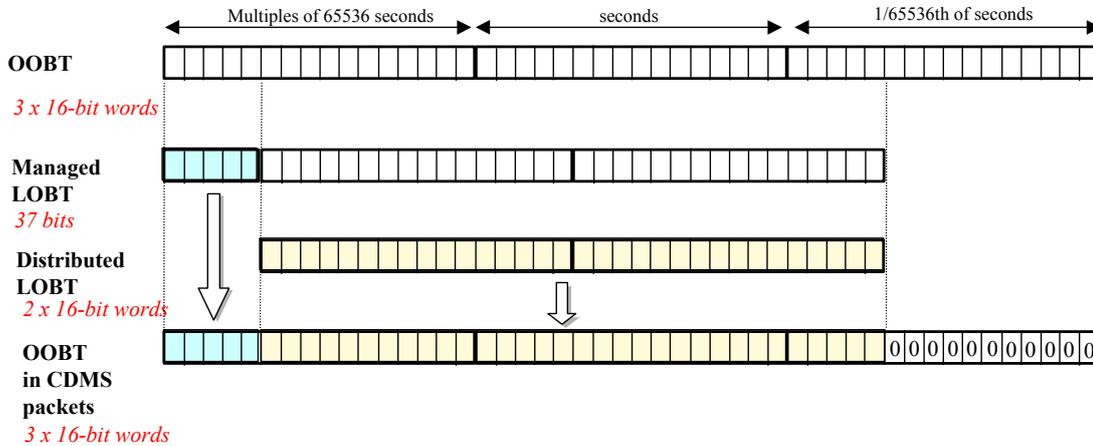

Figure 3.1: Reconstruction of on board time in CDMS packets
- ◆ The relationship between both time formats (OOBT and LOBT) is given in AD10. Afterwards, SONC processes science raw packets in order to recompose the science measurement (e.g. an image or a spectrum). Figure 3.1 gives an overview of this data flow.